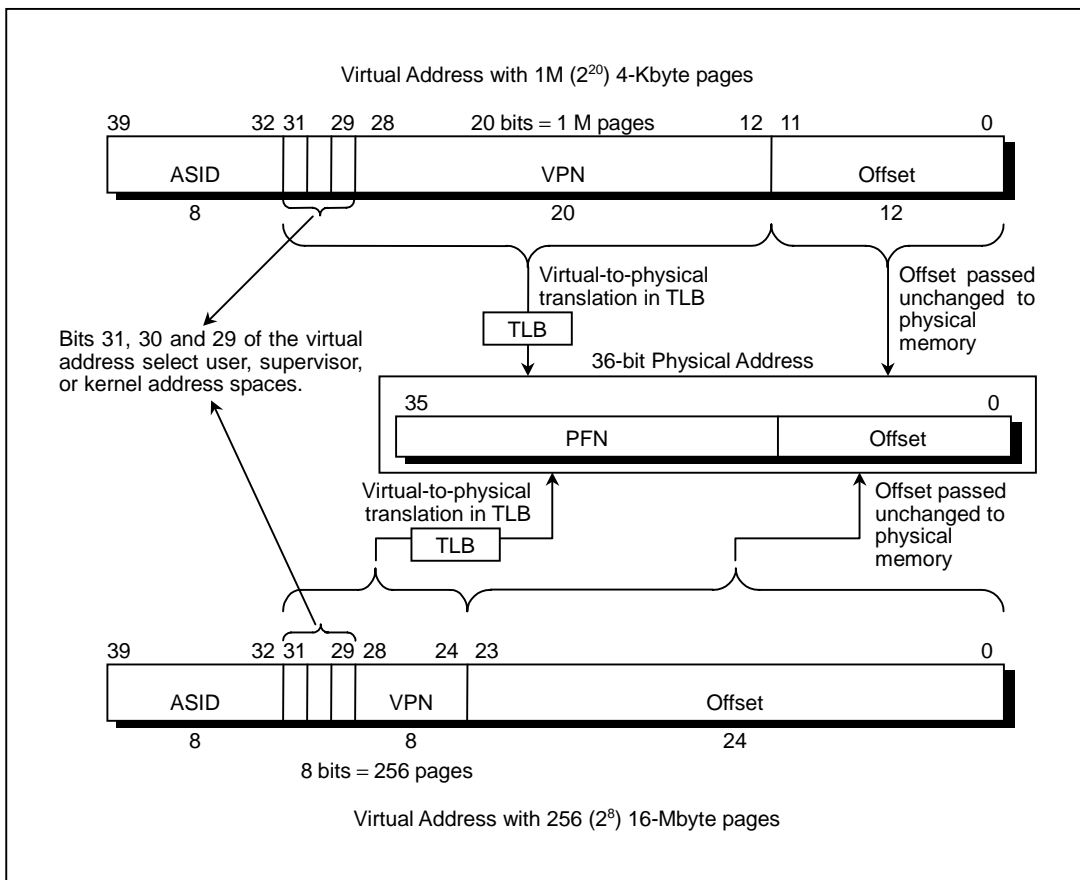
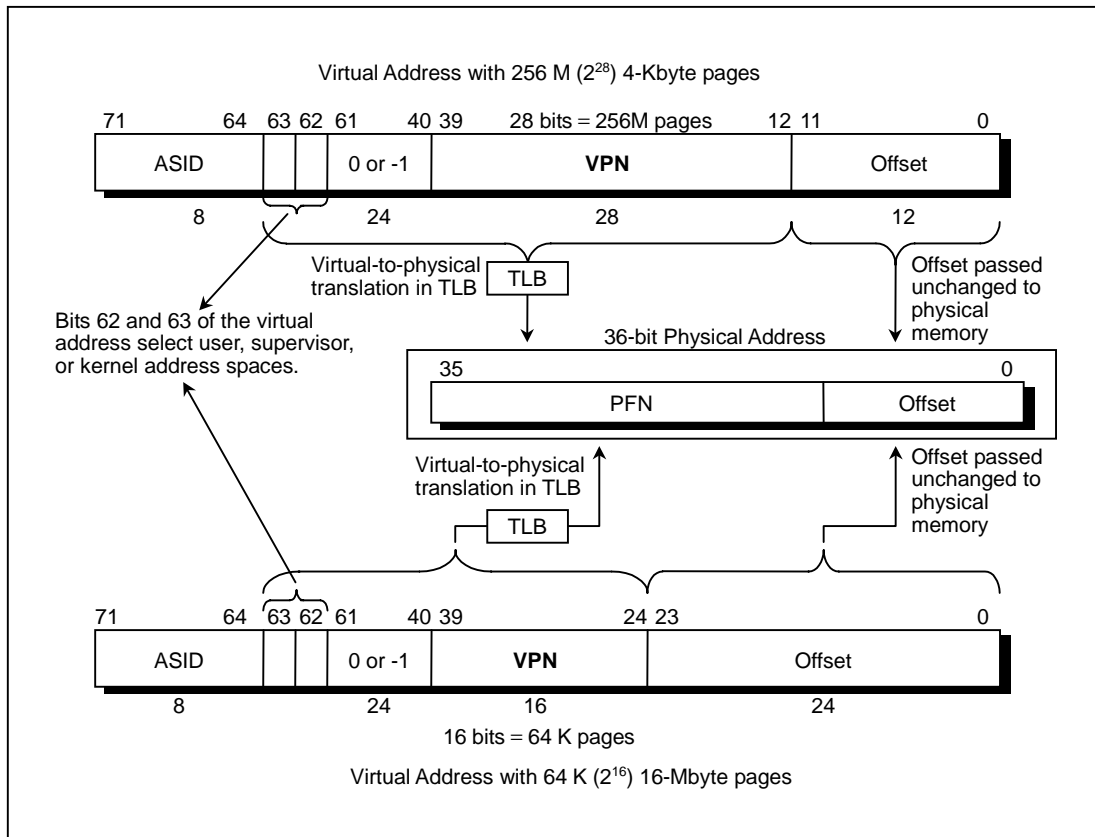

Figure 8-2 32-bit Mode Virtual Address Translation
Figure 8-3 64-bit Mode Virtual Address Translation
As shown in Figure 8-2 and Figure 8-3, the virtual address is extended with an 8-bit address space identifier (ASID), which reduces the frequency of TLB flushing when switching contexts. This 8-bit ASID is in the CP0 *EntryHi* register, described later in this chapter. The *Global* bit (G) is in the *EntryLo0* and *EntryLo1* registers, described later in this chapter.
Figure 8-2 shows the virtual-to-physical-address translation of a 32-bit mode address. This figure illustrates two of the possible page sizes: a 4-Kbyte page (12 bits) and a 16-Mbyte page (24 bits).
- The top portion of Figure 8-2 shows a virtual address with a 12-bit, or 4-Kbyte, page size, labeled *Offset*. The remaining 20 bits of the address represent the VPN, and Index the 1M-entry page table.
- The bottom portion of Figure 8-2 shows a virtual address with a 24-bit, or 16-Mbyte, page size, labeled *Offset*. The remaining 8 bits of the address represent the VPN, and index the 256-entry page table.
Figure 8-3 shows the virtual-to-physical-address translation of a 64-bit mode address. This figure illustrates two of the possible page sizes: a 4-Kbyte page (12 bits) and a 16-Mbyte page (24 bits).
- The top portion of Figure 8-3 shows a virtual address with a 12-bit, or 4-Kbyte, page size, labelled *Offset*. The remaining 28 bits of the address represent the VPN, and index the 256M-entry page table.
- The bottom portion of Figure 8-3 shows a virtual address with a 24-bit, or 16-Mbyte, page size, labelled *Offset*. The remaining 16 bits of the address represent the VPN, and index the 64K-entry page table.